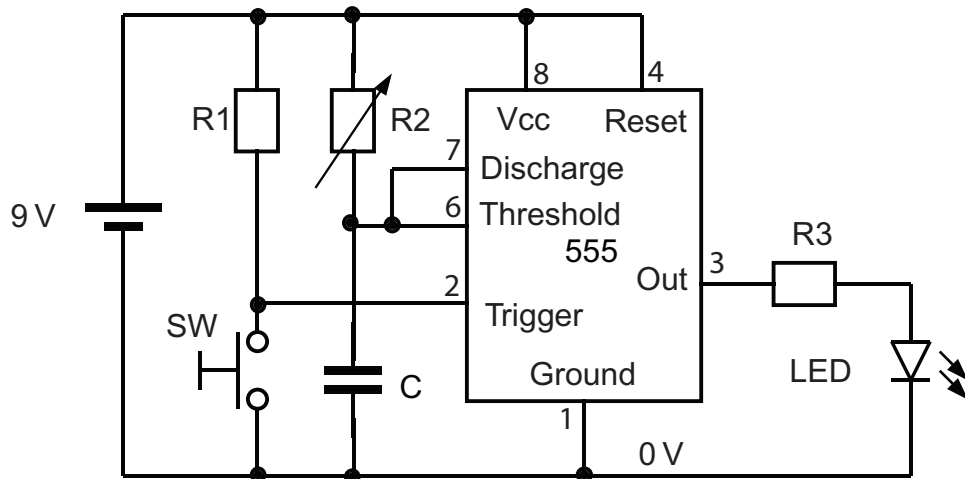

Fig. 10(b)
- (i) State if the circuit shown in Fig. 10(b) is an example of an open loop or closed loop system and briefly justify your choice. [2]
- (ii) Describe the operation of the circuit shown in Fig. 10(b) making reference to the components that control the timing. [4]